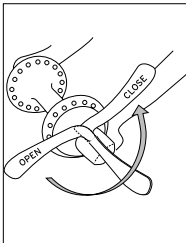

FIGURE 38:
3. Lock the quick-release; with the lever in the palm of your hand, move the lever as shown in Figure 38 to the CLOSE position (Figure 40 and Figure 41). When you move the lever to the adjustment position, you should feel some resistance.